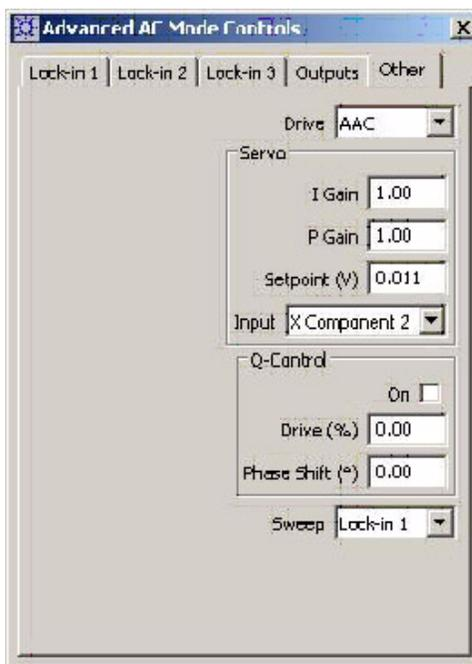

Figure 87 Advanced AC Controls Other tab
- 1 Choose **Controls > Advanced > AC Mode**, then click the **Other** tab (Figure 87).